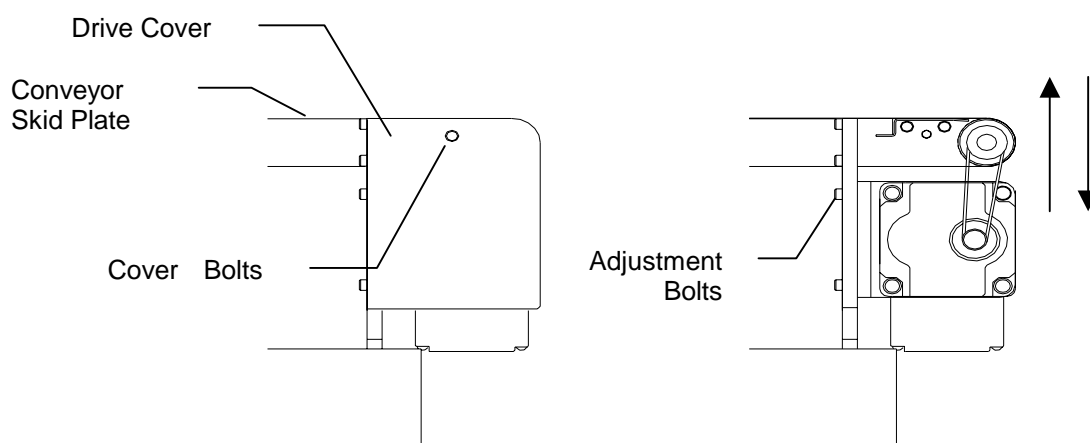

Figure 7 Drive Belts on a Conveyor with 38mm Rollers
1. Refer to Figure 7. At the belt drive cover, unscrew and remove the two M6 screws (10mm A/F hex. head). Remove the cover. This allows the belt to be inspected.